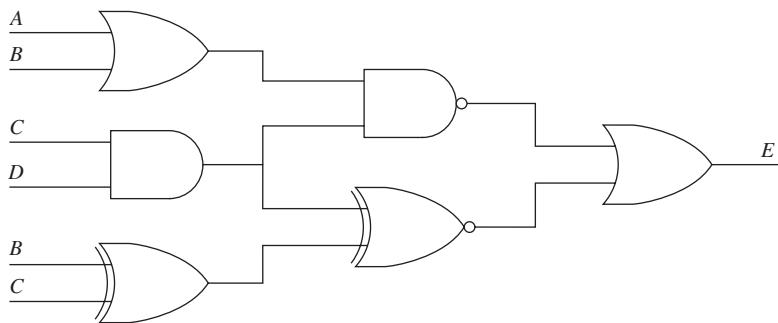

FIGURE P10.53 Logic circuit for P10.53.
- 10.53** (A) Find the expression of the output of the logic circuit shown in Figure P10.53.